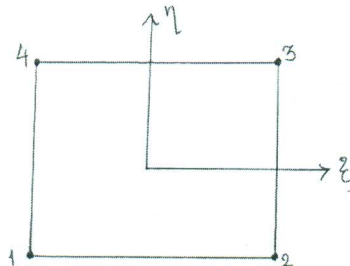

Fig.Q5(b)
b. Using "Serendipity Concept", generate the shape functions for 4 noded rectangular element as shown in Fig.Q5(b). (06 Marks)